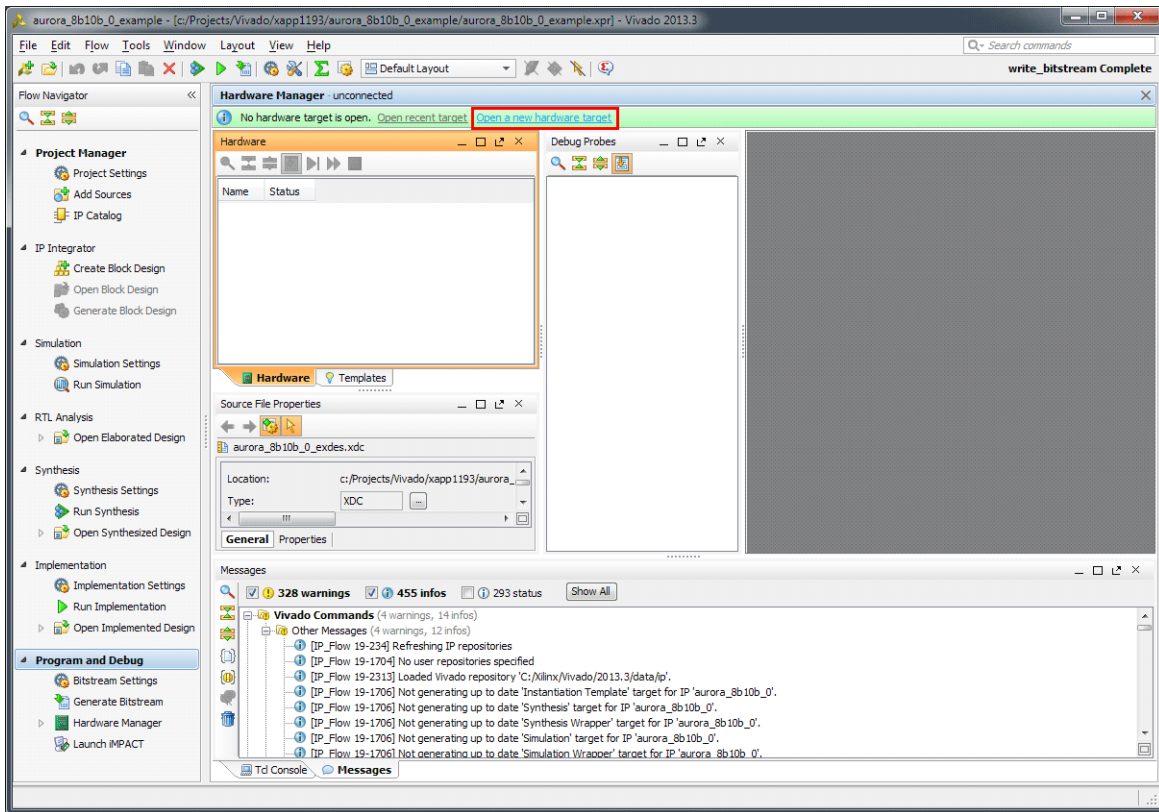

Figure 19: Open a New Hardware Target
- At the top of the Hardware Manager panel (see Figure 19), click **Open a new hardware target** and Click **Next**.